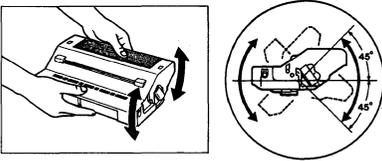

Figure 4-16
- 1) Before loading a new EP-N cartridge, hold the cartridge horizontal with both hands and rock it slowly back and forth (about 45° to each side) to distribute the toner evenly as shown in Figure 4-16. After the cartridge is loaded, print three to five pages of test patterns to check for toner leakage. Even if toner has leaked, clean prints will be produced after the test print.
- 2) If blank spots occur on prints due to lack of toner, remove the cartridge and rock it as shown in Figure 4-16 above to evenly distribute the toner.